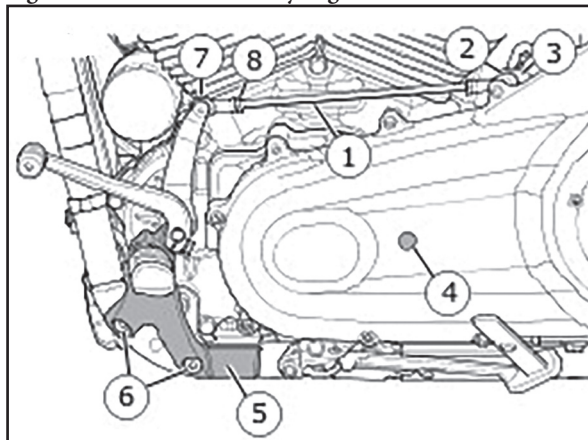

Figure 5. Left side forward controls
- b. See Figure 5. Apply threadlocker to screws (6).LOCTITE 243 MEDIUM STRENGTH THREADLOCKER AND SEALANT (BLUE) (99642-97)
- c. Install left foot support assembly (5).
- d. Install screws (6). Tighten.